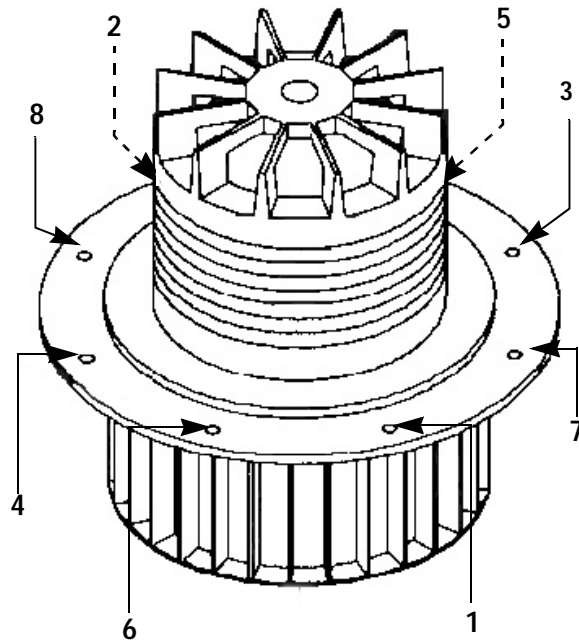

Figure 158: Example of Torquing Sequence
3. Remove the blower motor from the blower housing by removing the eight (8) M4 socket head screws on the retaining plate. Carefully remove the motor, blower cage and gasket.
6. Before replacing the eight (8) M4 socket head screws, apply high temperature silicone to them. Using a torque wrench, torque them to 12 inch-pounds. Torque them in an alternating pattern. As an example, refer to Figure 158 for torquing sequence.